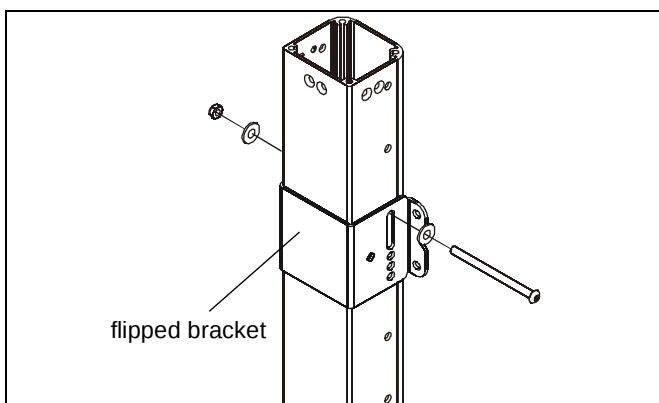

Figure 4
**NOTE:** Clamp brackets (B) may be flipped in order to use long slots for installation if necessary. (See Figure 4)